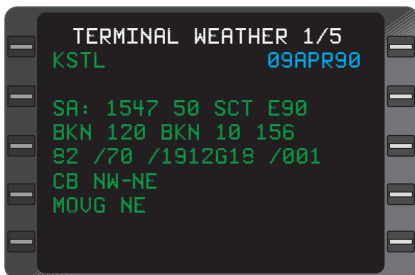

Figure 7-57
- If there are identifiers: Placing the cursor over the selected identifier on the terminal weather and pressing **ENT** will display the weather information for the airport. (Figure 7-57)